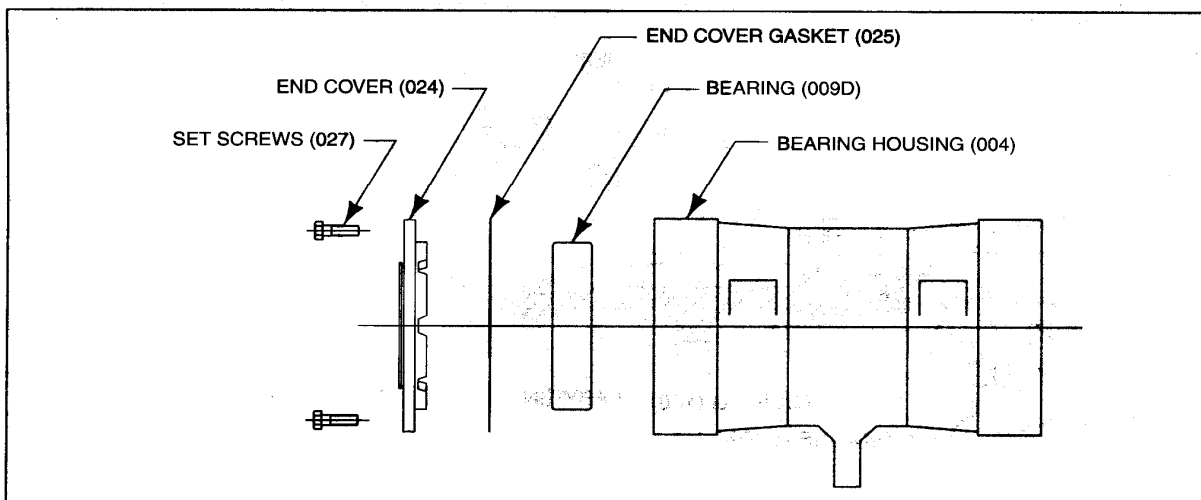

Figure 3-2 • Fitting Drive End Outer Bearing to Housing
**FITTING OF DRIVE END OUTER BEARING TO HOUSING (Figure 3-2)**
1. Apply light grease or oil to drive end bore (marked DRIVE END) of BEARING HOUSING (004).
4. Lightly grease inside surfaces of END COVER (024).
5. Place end cover with END COVER GASKET (025) in housing, insert END COVER SCREWS (027), and tighten evenly.